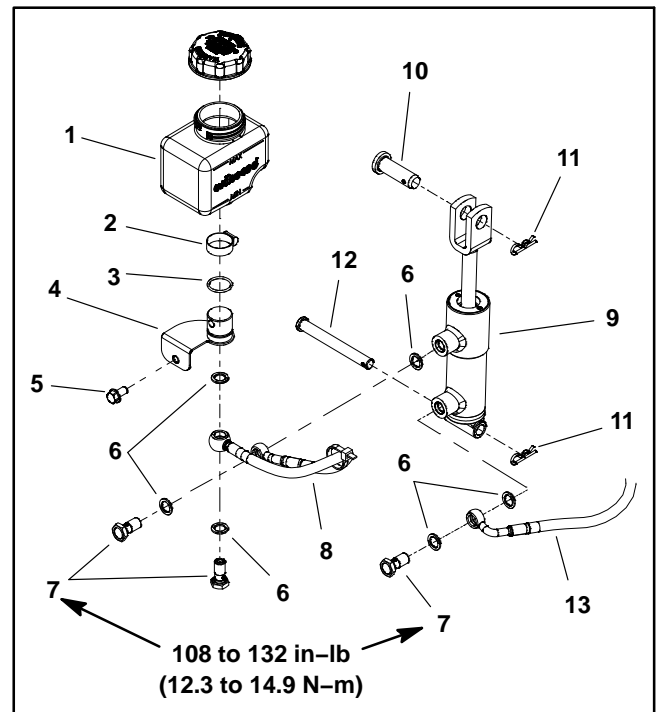

Figure 20
A. If banjo bolts (item 7 in Fig. 20) were removed from reservoir fitting cylinder, use new banjo washers (item 6 in Fig. 20) on both sides of hose fitting and torque banjo bolt from **108 to 132 in-lb (12.3 to 14.9 N-m)** during assembly.